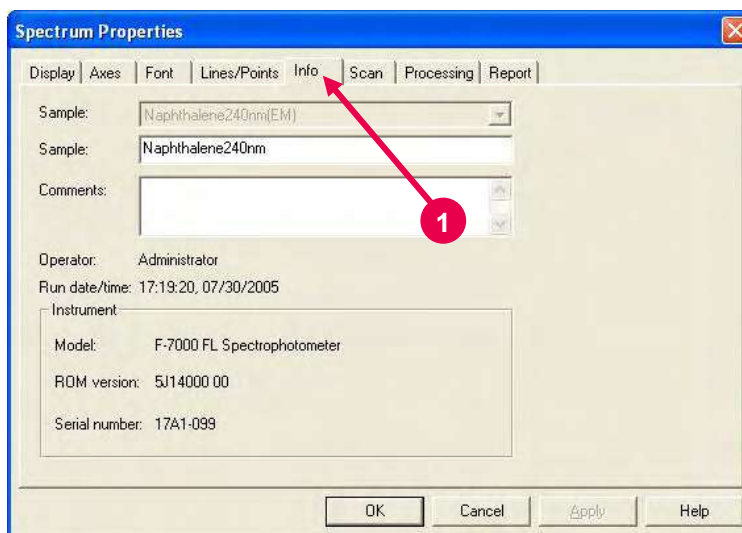

Fig. 8-8 Info Tab
- (1) Click the  (properties) button on the Processing toolbar. (Or select the Spectrum Properties command from the Edit menu.)
- (2) Upon clicking the Info tab (refer to ① in Fig. 8-8), a tab page as in Fig. 8-8 will appear. When you click the Scan tab (refer to ② in Fig. 8-9), a tab page as in Fig. 8-9 will appear.